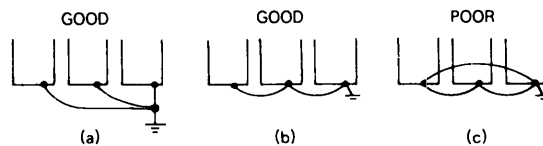

Fig. 7 Grounding of Three VS-616GII Units
- (1) Ground resistance should be 100Ω or less.
- (2) Never ground VS-616GII in common with welding machines, motors, and other large-current electrical equipment, or ground pole. Run the ground lead in a separate conduit from leads for large-current electrical equipment.
- (3) Use ground lead listed in Table 17 (page 53) and make the length as short as possible.
- (4) Where several VS-616GII units are used side by side, all the units should preferably be grounded directly to the ground poles. However, connecting all the ground terminals of VS-616GII in parallel, and ground only one of VS-616GII to the ground pole is also permissible (Fig. 7). However, do not form a loop with the ground leads.